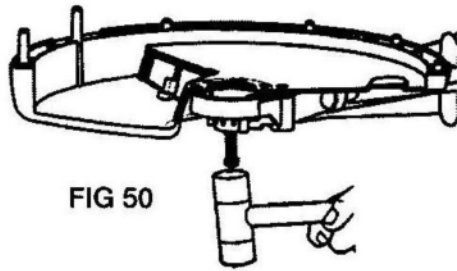

FIG 50
3. Carefully push new blade shaft #43114 up into bearing and tap through carefully so washers, crown gear and spacer remain in position and the 3/8 bolt is pushed out (Fig. 50).